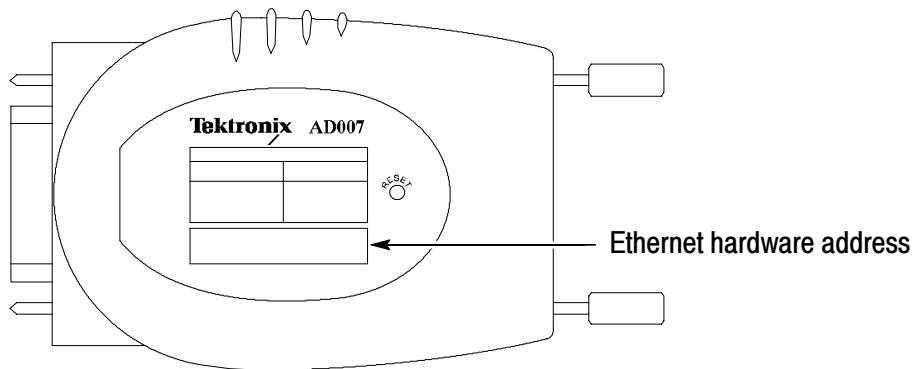

Figure 5: Ethernet hardware address
1. Find the Ethernet hardware address on the back of the AD007 adapter (Figure 5) and copy it onto the card. Each AD007 adapter has a unique Ethernet hardware address.